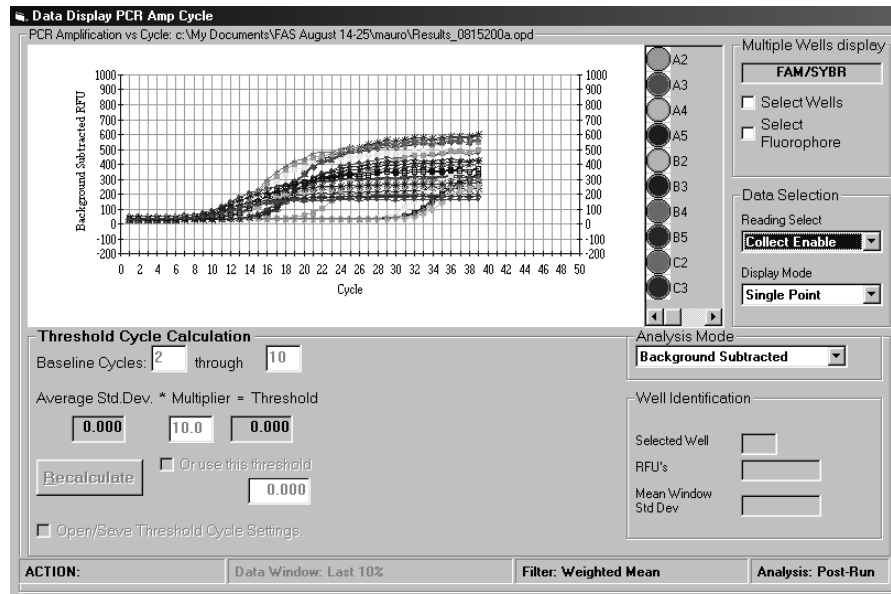

Fig. 7.18. Selecting Collect Enable.
- From the Data Selection box of the PCR Amp Cycle Plot, choose Collect Enable in the Reading Select field. The data collected with the gray camera will be combined with the existing data. (Figure 7.18)